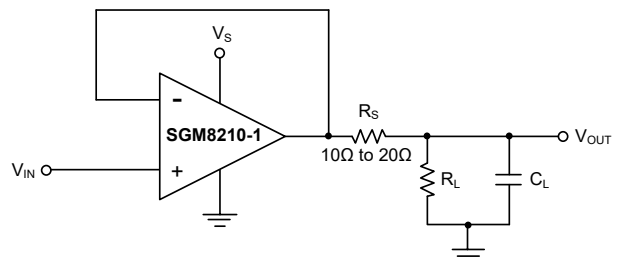

Figure 2. Series Resistor in Unity-Gain Buffer Configuration Improves Capacitive Load Drive
Follow-on configurations with load capacitance in excess of 30pF can produce extra overshoot and ringing in the output signal. Increasing the gain enhances the ability of the amplifier to drive greater capacitive loads. In unity-gain configurations, capacitive load drive can be improved by inserting a small (10 Ω to 20 Ω) resistor, R_S , in series with the output, as shown in Figure 2. This resistor significantly reduces ringing while maintaining direct current (DC) performance for purely capacitive loads. However, if there is a resistive load in parallel with the capacitive load, a voltage divider is created, introducing a DC error at the output and slightly reducing the output swing. The error introduced is proportional to the ratio R_S/R_L , and is generally negligible.